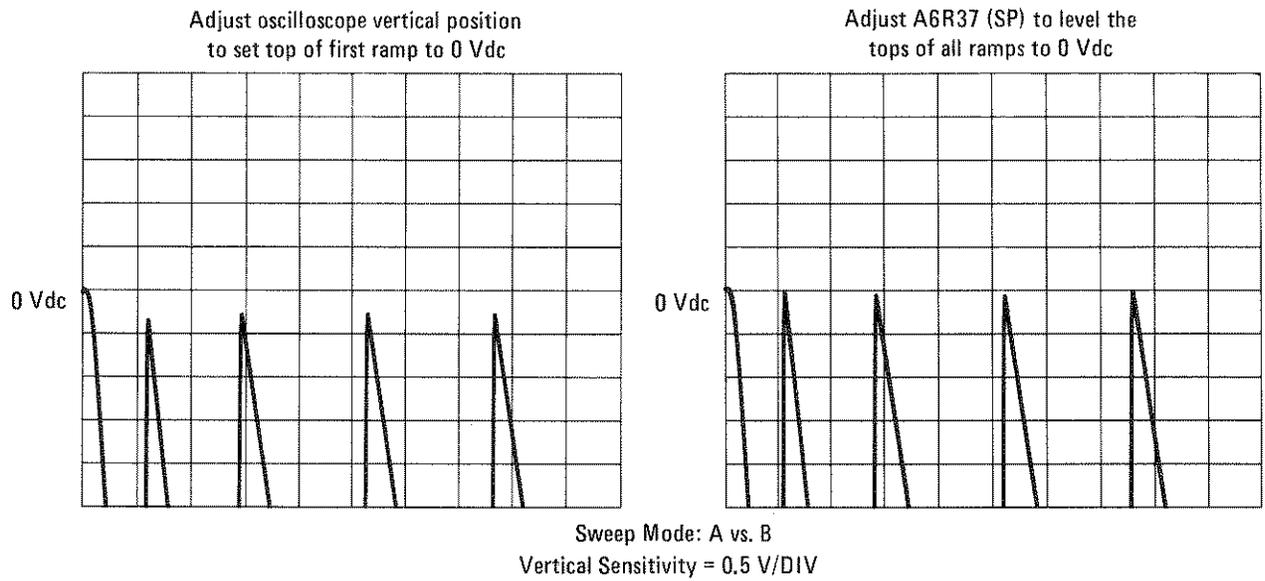

Figure 5-5. Sweep Control Adjustment Waveforms
26. Adjust the Oscilloscope vertical position control to set the top of the first full 0 to -10 volt sweep ramp on the centerline as shown in Figure 5-5.
27. Adjust A6R37 (SP) to bring the tops of the remaining 0 to -10 volt sweep ramps to the center graticule as shown in Figure 5-5.